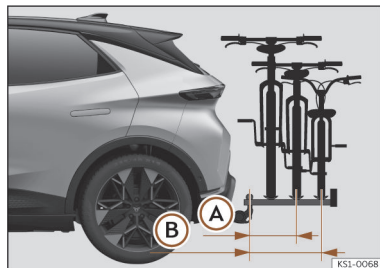

Fig. 171 Schematic representation of the maximum load overhang of a bicycle rack for two or three bicycles.
>>> **Fig. 171 (A)** for two-bicycle racks. In the case of three-bicycle racks, the overhang must not exceed 700 mm >>> **Fig. 171 (B)**.